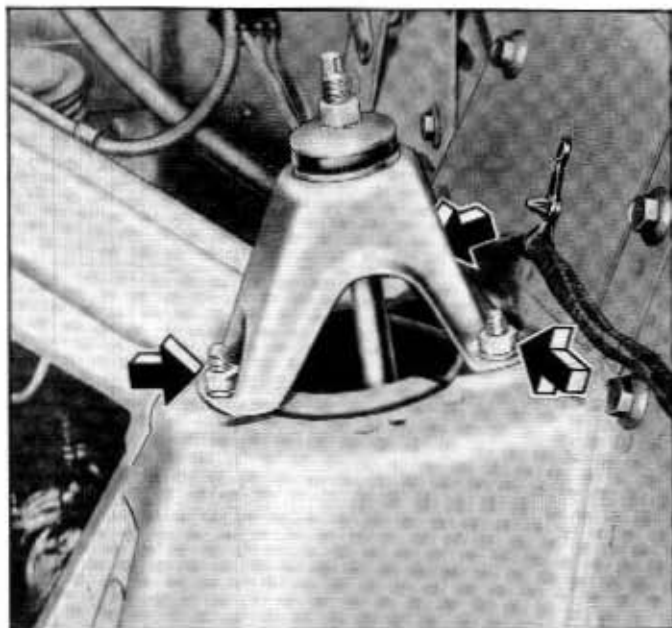

Fig. 3-9—Shock Absorber Upper Mounting—(60C-409)
from the car. See figures 3-9 and 3-10.
3. Remove the shock absorber upper mounting bracket retaining bolts and remove the bracket and shock absorber. See figures 3-9 and 3-10.